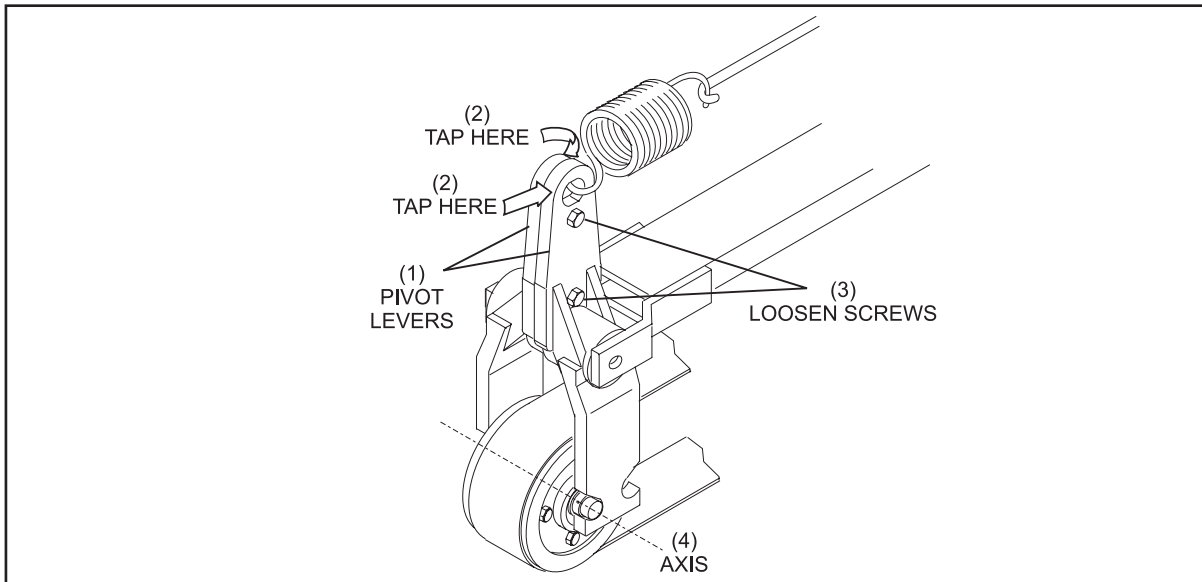

Figure 5-15. Loosen Hardware Securing Pivot Levers
2. Using a 17 mm socket, ratchet and wrench, loosen the two screws and nuts securing the pivot levers. ONLY loosen screws enough to allow slight adjustment of pivot levers. Refer to *Figure 5-15*.
3. Rotate the belt by hand and observe belt tracking. Use light, short taps from a soft rubber mallet to reposition left and right pivot levers until belt is tracking on the center of pulley drum. Tighten the two screws and nuts securing the pivot levers. Refer to *Figure 5-15*.